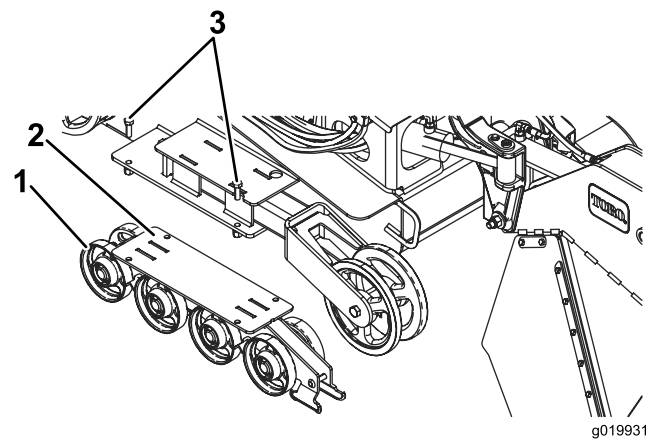

**Figure 50**
2. Remove the 4 bolts securing each lower track guide which contains the road wheels, and remove them (Figure 50).